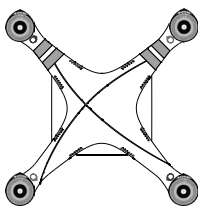

Figure 20
- (1) (Figure 20) Remove warning cards from motors after you have read them.